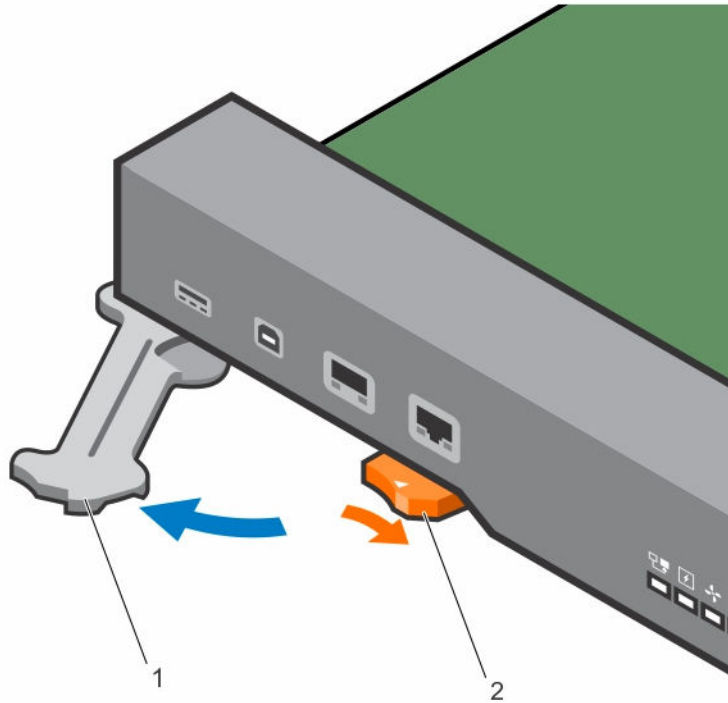

Figure 21. Extending the RPM Ejector Levers
1. Open the left and right ejector levers (item 1 in Figure 21) on an RPM by pressing in the orange tab (item 2 in Figure 21) and rotating it to the right so that both levers snap into the open position.